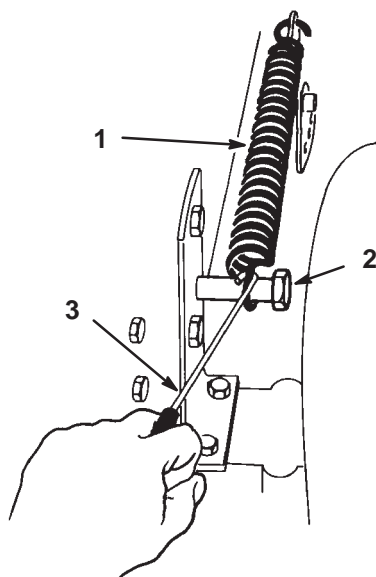

Figure 47
16. Hook the lift assist spring between the mower right side lift bracket and the retaining bolt (Fig. 47).